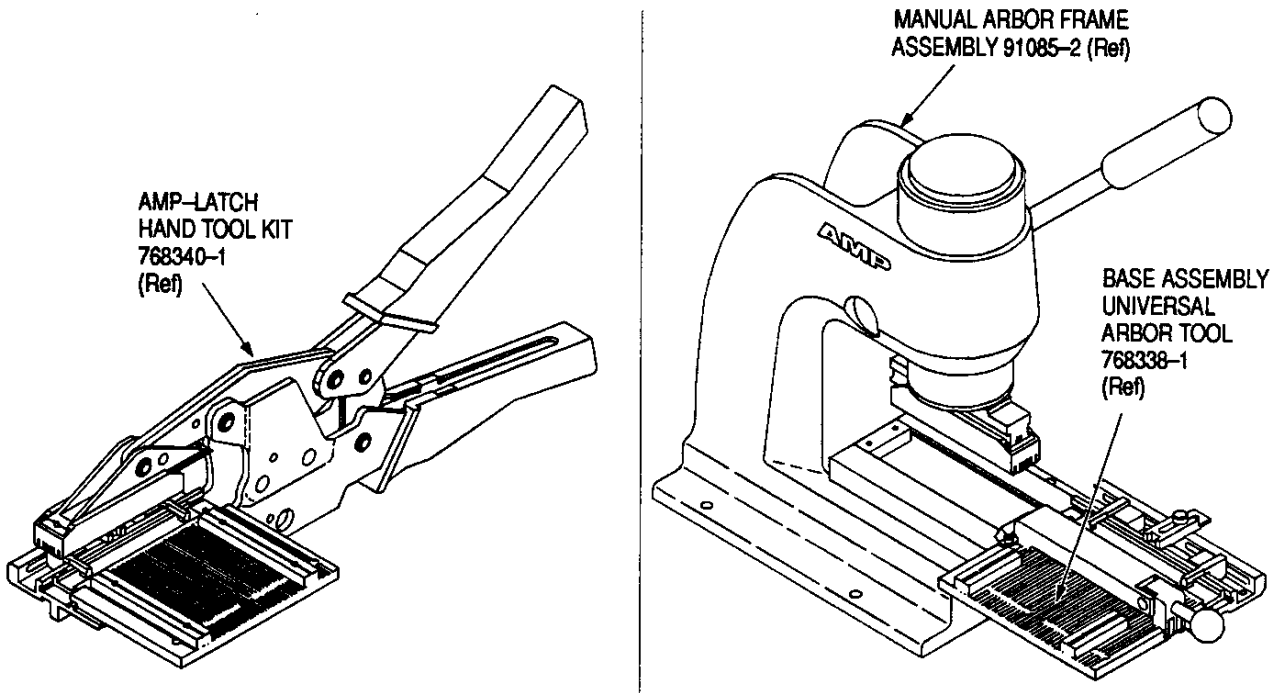

Figure 1
This instruction sheet describes AMP Connector-Specific Kit 768348-1, lists cable requirements, and describes installation of the kit. (See Figure 1.)
The connector-specific kit is used with AMP-LATCH Hand Tool Kit 768340-1 or Base Assembly Universal Arbor Tool 768338-1 (Figure 1) to terminate
**2. DESCRIPTION (Figure 1)**